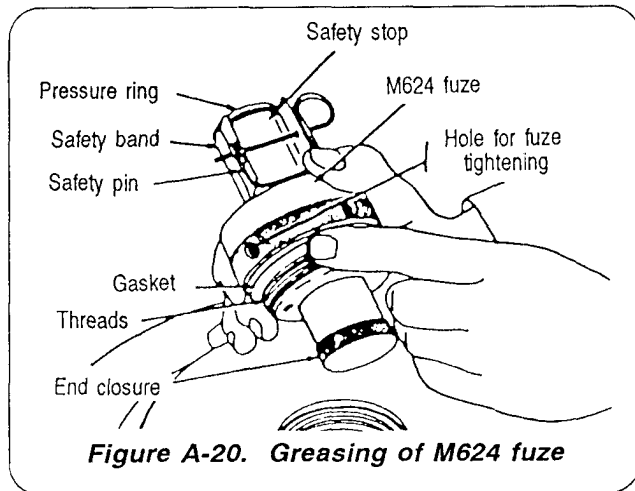

Figure A-20. Greasing of M624 fuze
**NOTE: For long-term emplacement, coat the fuze threads and gasket with silicone grease before removing the end closure (Figure A-20).**